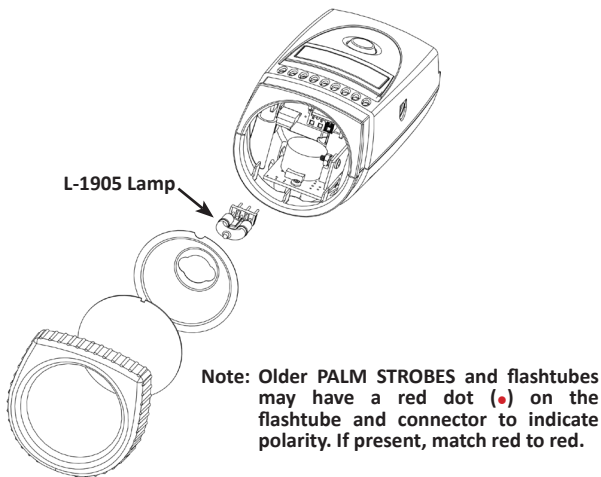

Figure 6 Lamp Replacement
3. Using a lint-free cloth, insert the new lamp by gently rocking the lamp while pushing it into place (see Figure 6). Make sure the lamp is in straight and centered in the reflector hole.
4. Reinstall the reflector (if necessary) and then position the front lens in place matching up the notches on the lens with the two small tabs on the housing to prevent lens rotation (see Figure 6). Stretch the rubber bumper over the top and bottom case halves to seal in the reflector and front lens.